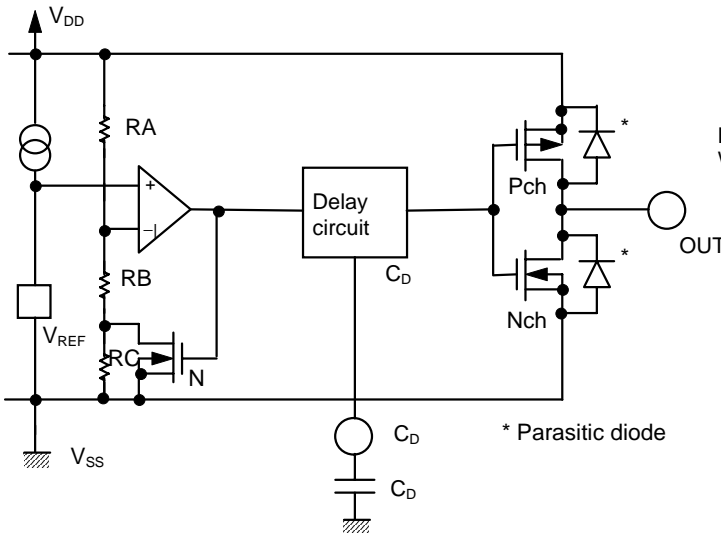
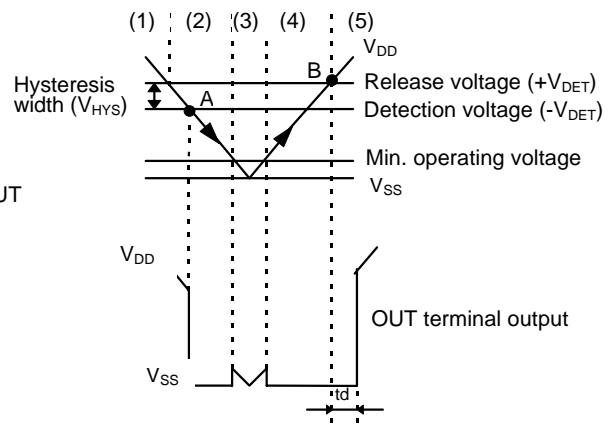

Figure 10
Figure 11
The hysteresis width is the voltage difference between the detection voltage and the release voltage ($B-A=V_{HYS}$ in Figure 11). By giving a device hysteresis, trouble such as noise at the input is avoided.
- (1) When power supply voltage V_{DD} is greater than the release voltage $+V_{DET}$, the Nch transistor is OFF and the Pch transistor ON, causing V_{DD} (high) to appear at the output. With the Nch transistor N1 of Figure 10 OFF, the comparator input voltage is $(RB+RC)/(RA+RB+RC) \times V_{DD}$.
- (2) When power supply voltage V_{DD} goes below $+V_{DET}$, the output maintains the power supply voltage level, as long as V_{DD} remains above the detection voltage $-V_{DET}$. When V_{DD} does fall below $-V_{DET}$ (A in Figure 11), the Nch transistor goes ON, the Pch transistor goes OFF, and V_{SS} appears at the output. With the Nch transistor N 1 of Figure 10 ON, the comparator input voltage is $RB/(RA+RB) \times V_{DD}$.
- (3) When V_{DD} falls below the minimum operating voltage, the output becomes undefined. However, output will revert to V_{DD} if a pull-up has been employed.
- (4) V_{SS} will again be output when V_{DD} rises above the minimum operating voltage. V_{SS} will continue to be output even when V_{DD} surpasses $-V_{DET}$, as long as it does not exceed the release voltage $+V_{DET}$.
- (5) When V_{DD} rises above $+V_{DET}$ (B in Figure 11), the Nch transistor goes OFF, the Pch transistor goes ON, and V_{DD} appears at the output. Then V_{DD} at the OUT terminal appears with delay time(t_d) due to delay circuit.
The delay circuit outputs the signal delayed from the release voltage ($+V_{DET}$) point of the power voltage V_{DD} rising. The output signal is not delayed when the V_{DD} goes down the detection voltage ($-V_{DET}$) or less. (See Figure 11). The delay time(t_d) is determined by the time constant of the built-in constant current (approx. 100nA in the case of products with detection voltage of 1.5V or more, approx. 570nA in the case of products with detection voltage of 1.4V or less) and the attached external capacitor (C_D), and calculated from the following formula.